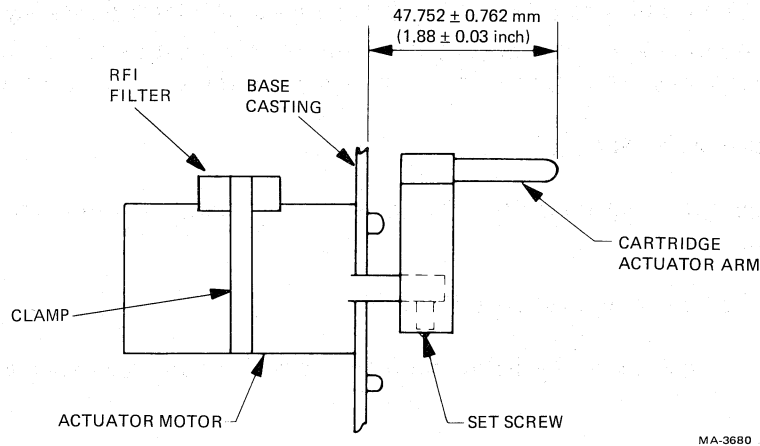

Figure 6-50 Cartridge Actuator Motor
4. Remove arm from motor shaft by loosening set screw (Figure 6-50).
6. Install new motor with the four mounting screws. Set arm height shown in Figure 6-50 and tighten set screw.